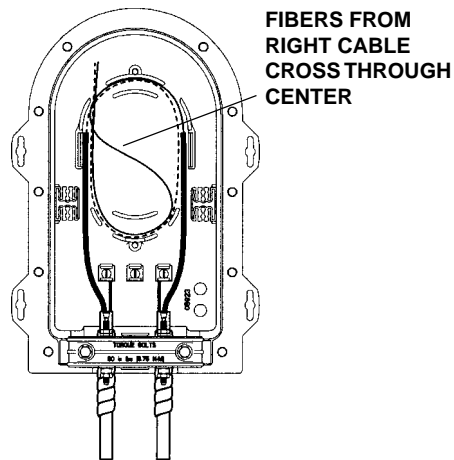

FIGURE 17 - ROUTING FIBERS TO BE SPLICED IN STORAGE AREA
7.05 Fibers of unitube-type cables to be spliced should be routed once around the storage channel and out of the left opening in the back of the curved wall sections. (Figure 17)
NOTE: Fibers from the cable entering the right cable entry must cross over the center of the inner chamber to exit from the left opening in the back. (Figure 17)